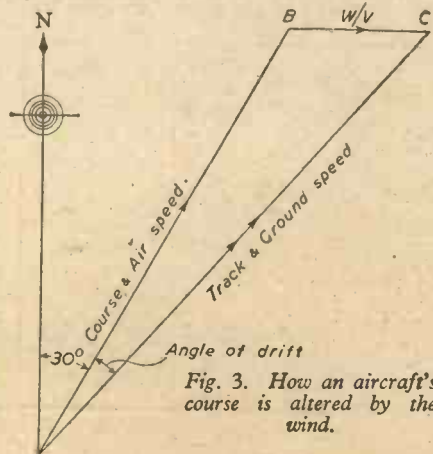
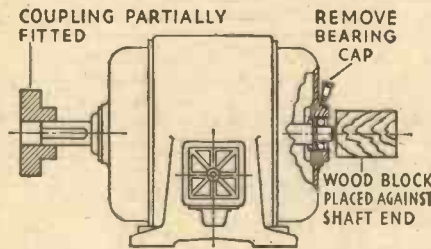

Fig. 3. How an aircraft's course is altered by the wind.
Fig. 2. Fitting vee pulleys and couplings.
A plane flying from A to B (Fig. 2), when no wind is blowing, would fly on a course of 30 degrees and then wait until the point (B) came into sight. If the wind was blowing from the west (270°) (Fig. 3), and the plane was heading 30° as before, he would not arrive at B, but at the point (C). In Fig. 3, which is drawn to scale, we imagine the aircraft to have completed one hour's flight.
In this case the coupling should be made 0.0005 in. under size, to allow a tight fit of one-thousandth of an inch. Always clean both the shaft and coupling bore and smear lightly with oil. The rear end cap should be removed, and after taking precaution that no dirt can enter the bearing, hold a heavy block of wood against the shaft extension, should force have to be applied. This will protect the bearings and shaft from damage. Where the rear end cannot be supported in this way, arrange for the coupling to be heated in oil or air to a temperature of 100 deg. F. when it will press easily into position (see Fig. 2).